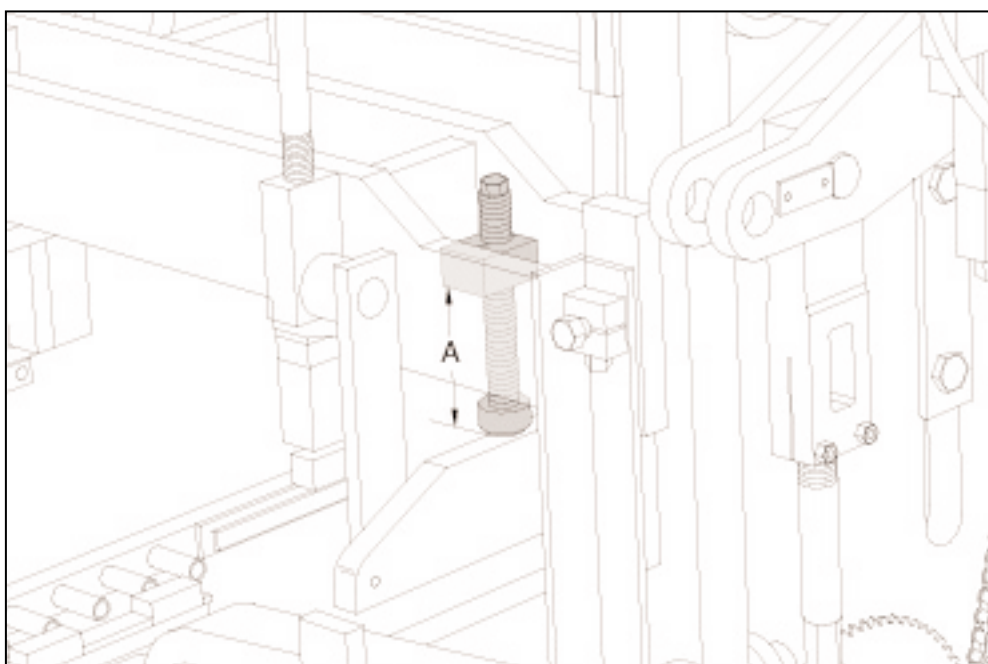

Figure 4.48 INSTALLING SHOCK ABSORBERS AND ADJUSTING.
4.3.8 Install the **445mm (18 1/2")** shock absorbers (**part #282177**). Adjust the shock absorbers to a dimension of **300mm [11.812"]** (represented by "A" in figure 4.48) from the bottom of the welded clamp block to the bottom of the rubber pad.